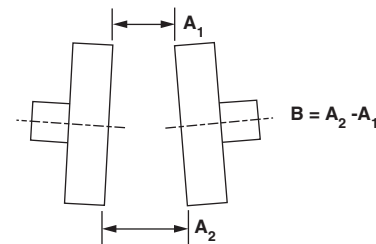

Figure 2
3. If precision equipment is not available, scales, straight edges, and calipers can be used as less accurate means of alignment. If using a scale or calipers, refer to Figure 2 and check the angular misalignment by measuring dimension "A" at four places 90° apart. Adjust the equipment until the four measurements do not vary more than the value "B" in Table 1. If using a straight edge, check the parallel offset by laying the straight edge across the outside diameter of the flanges in four places 90° apart. The gap between the flange and straight edge should not exceed 1/32" (0.79mm). To achieve maximum coupling performance, align the coupling as accurately as possible during initial installation.